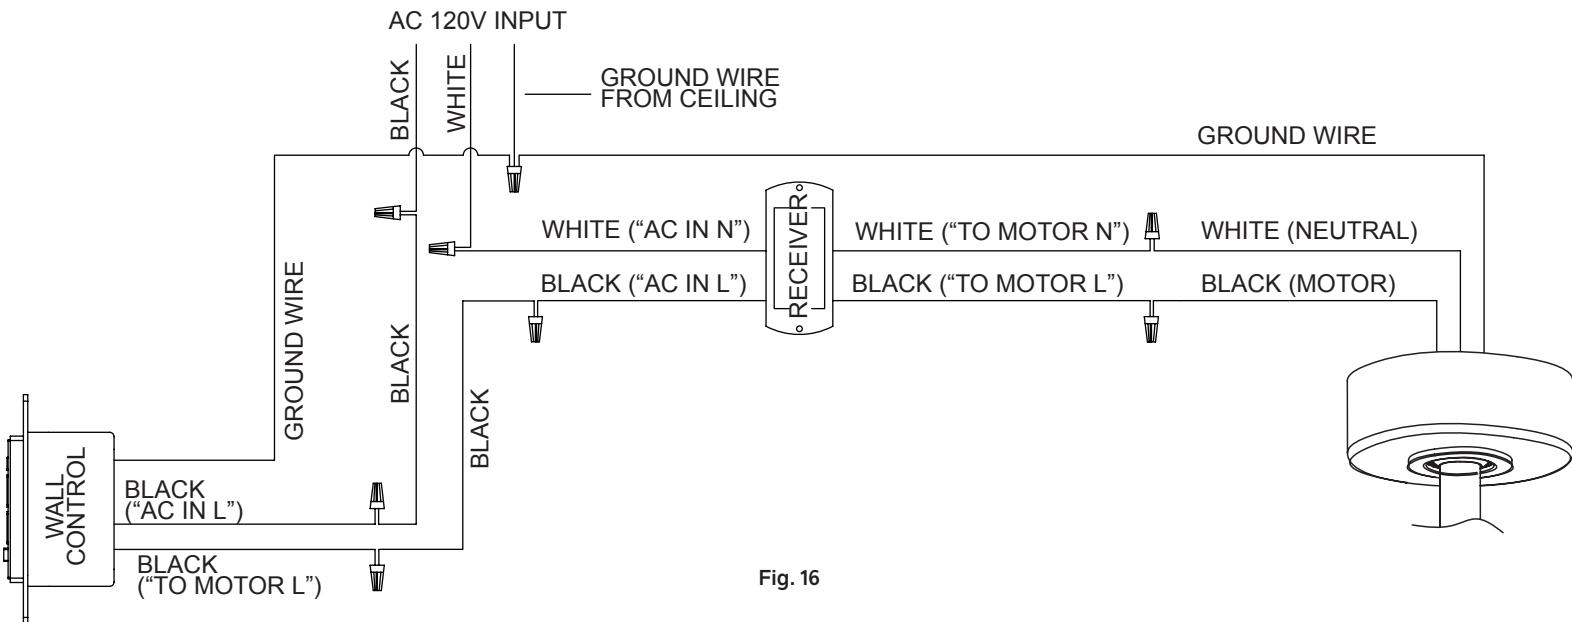

Fig. 16
**Step 2.** Connect wires using the connectors as shown in WIRE DIAGRAM. (Fig.16)